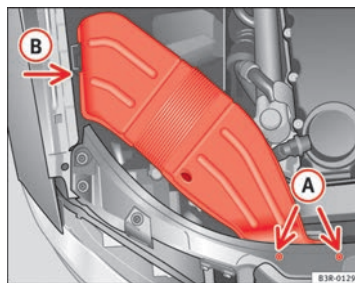

Fig. 199 Air duct on right side of vehicle
- Unscrew bolts **A** ⇒ fig. 199.